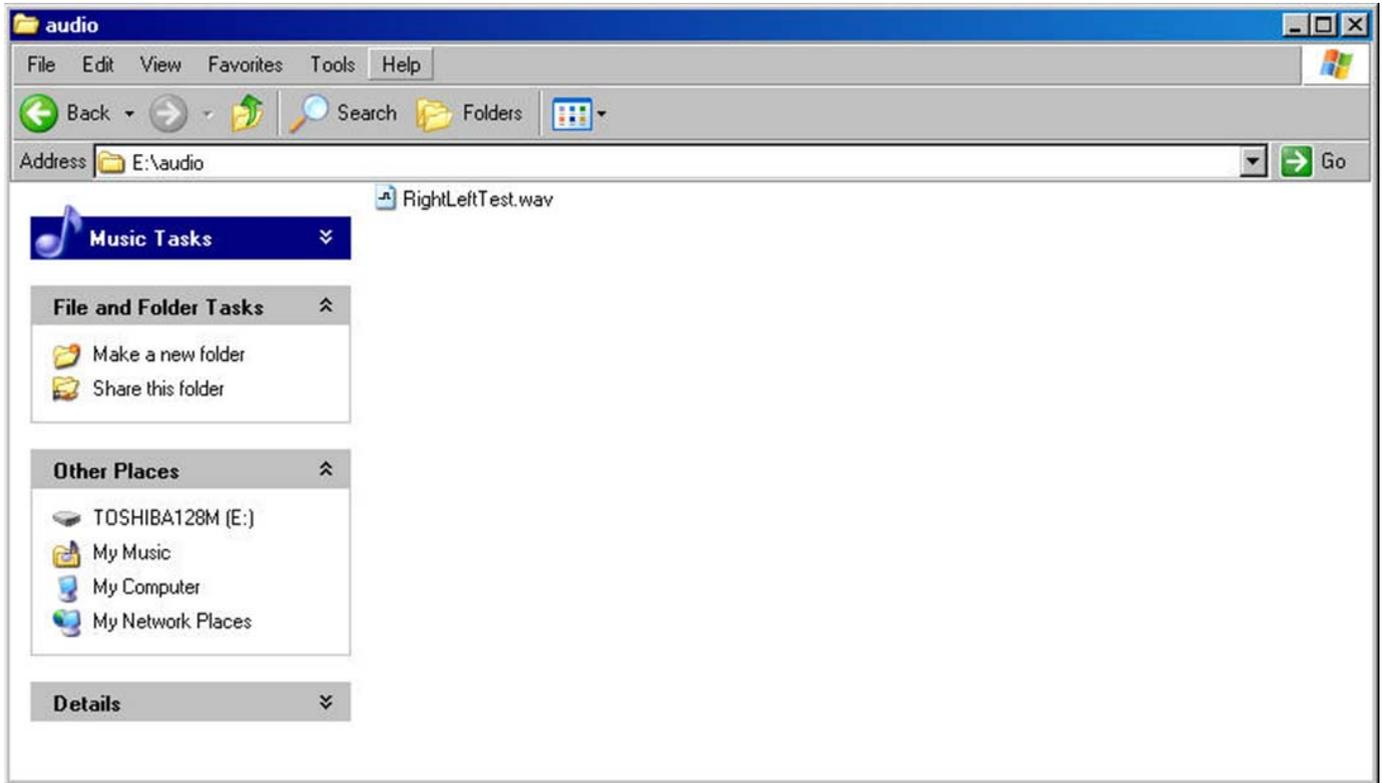

Figure 5-6: Audio Directory
- For audio .wav files, the user should select the “**audio**” directory. The user will place any user created .wav files into this directory (see Figure 5-6). This can be done by either dragging the file into this directory or cutting and pasting the file. The user should verify the file was properly transferred by opening the file from compact flash (by double clicking the file).